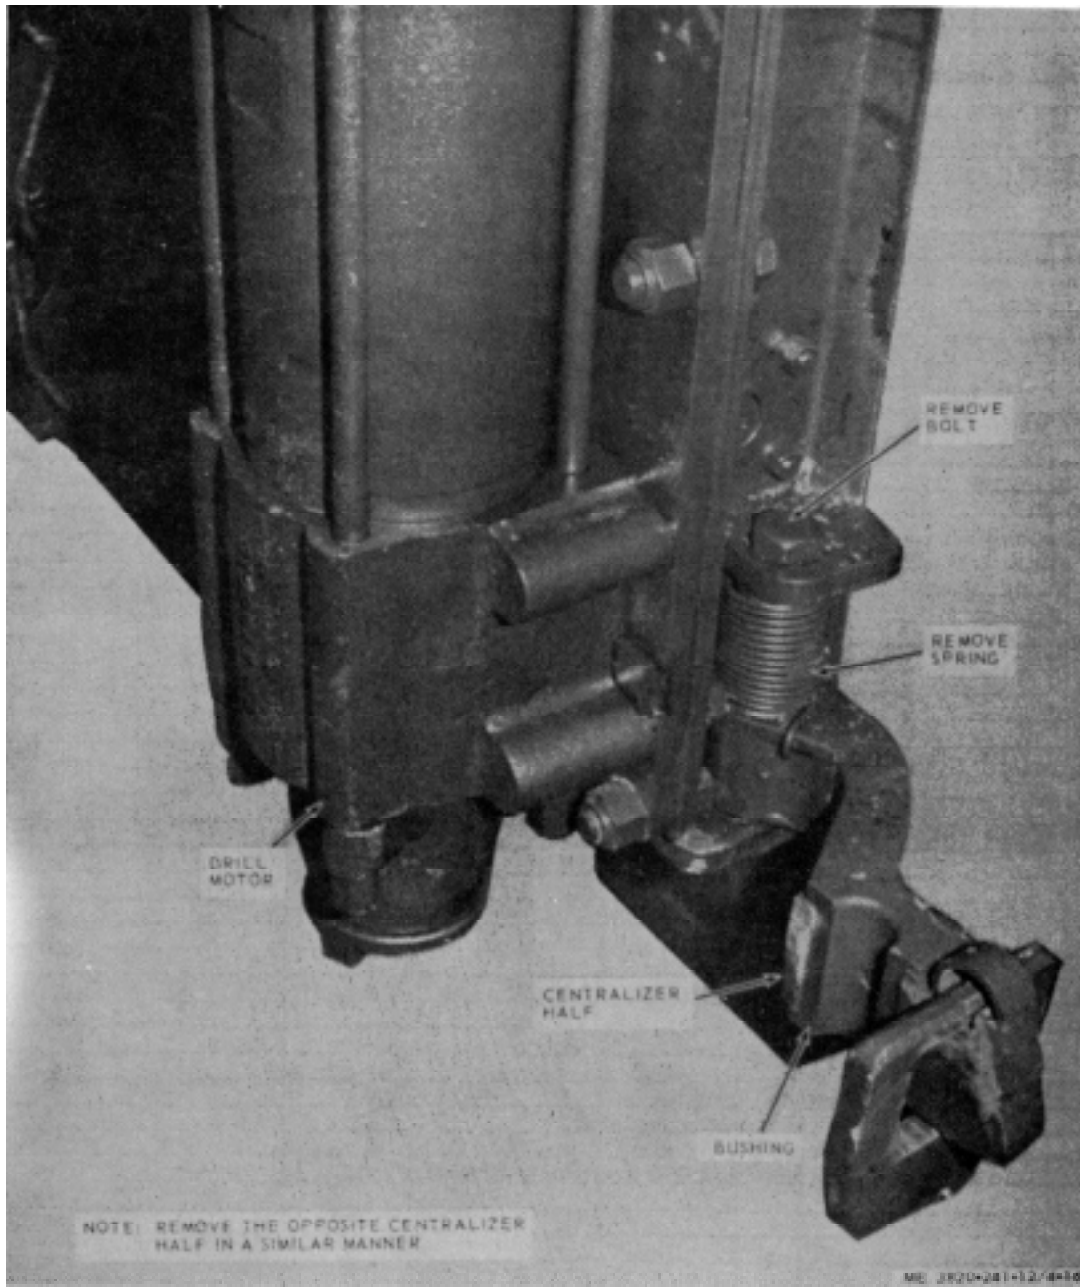

Figure 4-16. Centralizer, removal and installation.
- a. *Removal.* Remove the centralizer as illustrated in figure 4-16.
- (3) Replace a defective centralizer.
c. Installation. Install the centralizer as illustrated in figure 4-16.